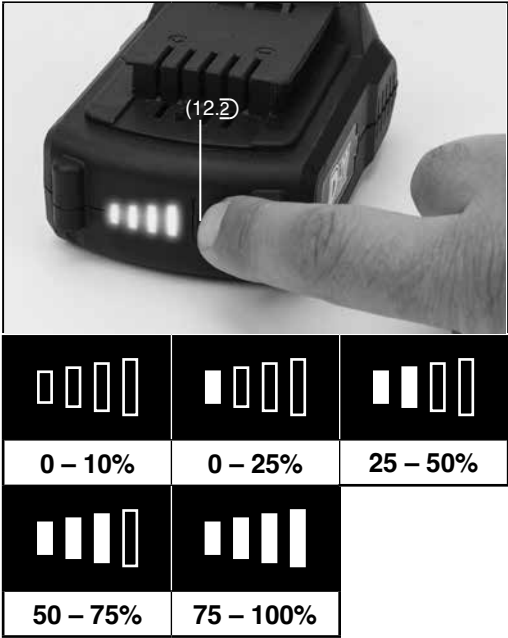

FIG. 10
6.8 BATTERY PACK CHARGE STATUS – FIG.10